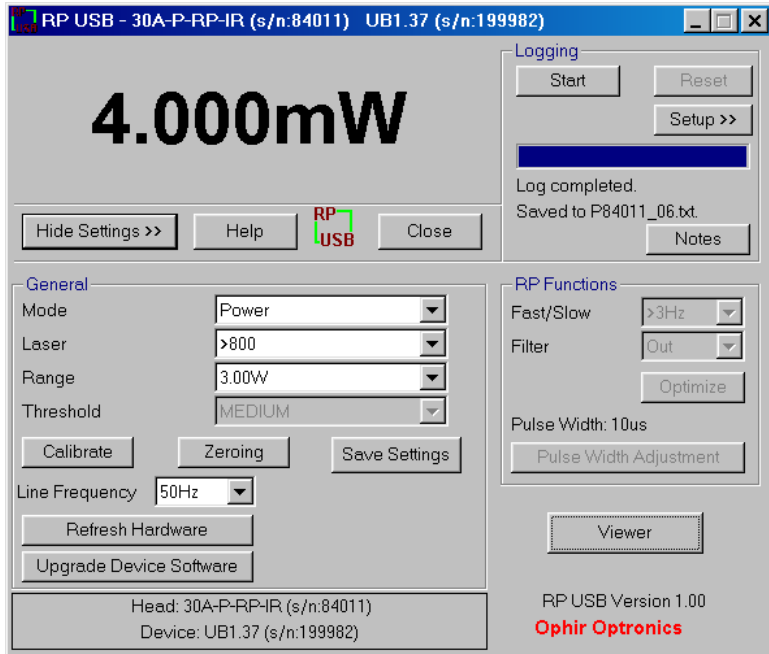

Figure 21: RP-USB display fully opened with head in Power mode
5. Power readings will be displayed in Watts (see Figure 21, page 37).